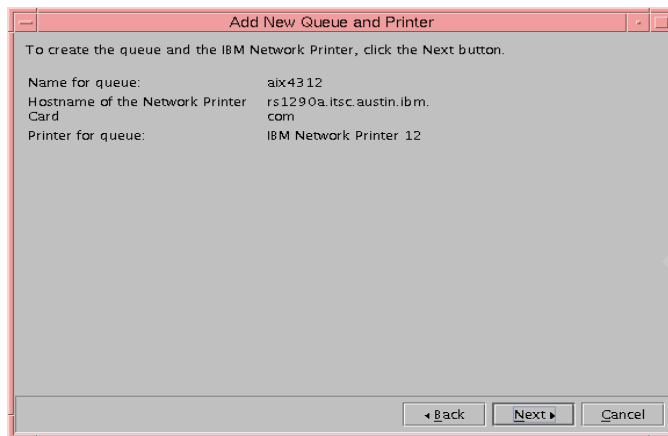

Figure 89. IBM Network Printer verification
10. We verified the information on this panel and clicked **Enter**, as shown in Figure 89.